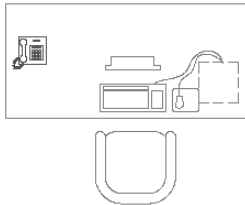

**Figure 18-28:** A set of office furniture.
1. Open `ab18-g-1.dwg` from the CD-ROM. This is a set of office furniture, as shown in Figure 18-28.